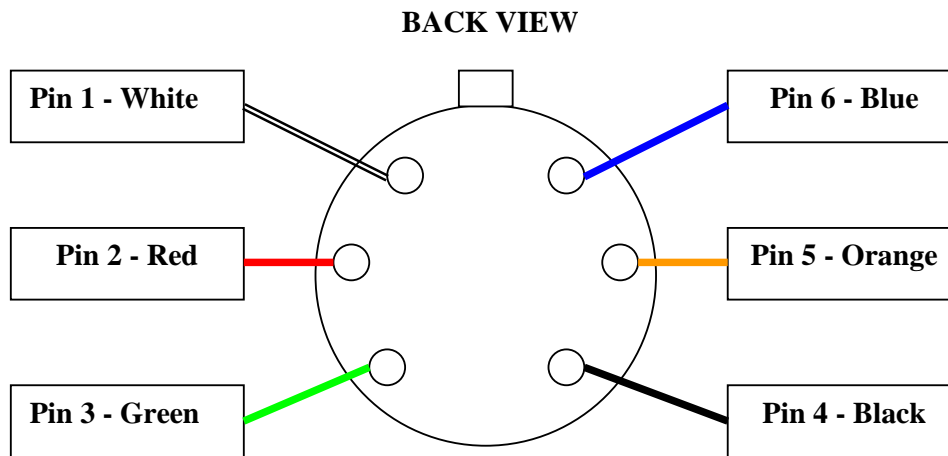

Figure 19
6. Carefully solder the wires into the solder cups of Piece C of the LEMO Connector as shown in Figure 19 and then shrink the tubing.